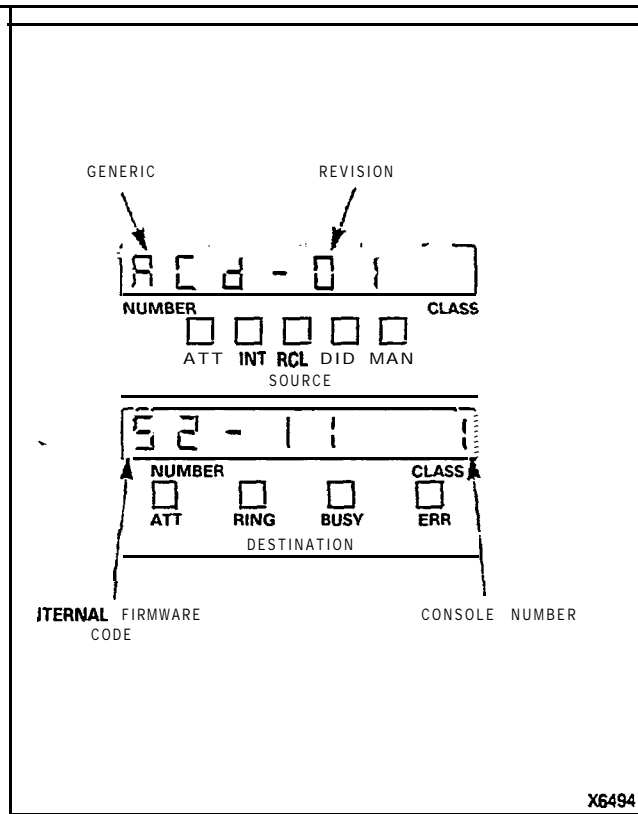

figure 3-3 Typical Identification Display
3.05 If the IDENT button is pressed when the console is idle, the SOURCE display will show the installed firmware generic number, and its revision. The DESTINATION display shows an internal firmware code and the number of the console at which the key was pressed (see Figure 3-3). If the IDENT button is pressed when the Supervisor is connected to either a source or destination party, the SOURCE and DESTINATION displays will change to show the equip-